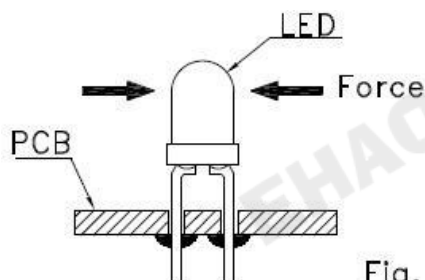

Fig. 9
6. After soldering or other high-temperature assembly, allow the LED to cool down to 50 °C before applying force (Fig. 9). In general, avoid placing excess force on the LED to avoid damage. For any questions please consult with LIGHT representative for proper handling procedures